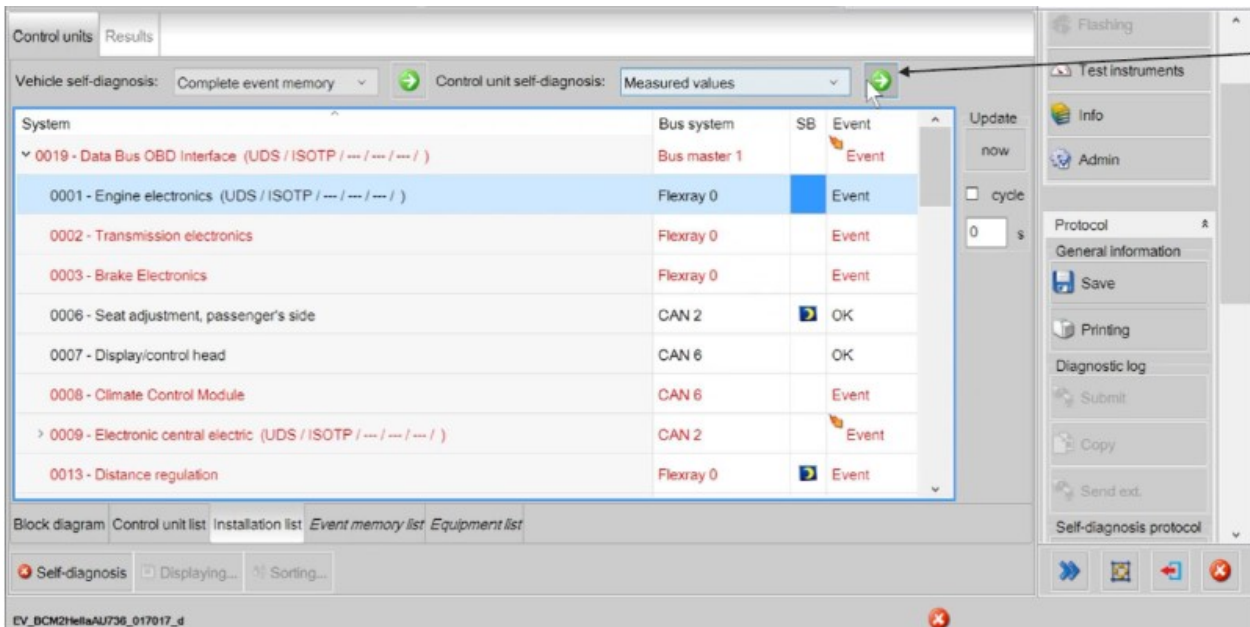

Figure 1
1) From self diagnosis - Select the Measured values for the required control unit (Figure 1)